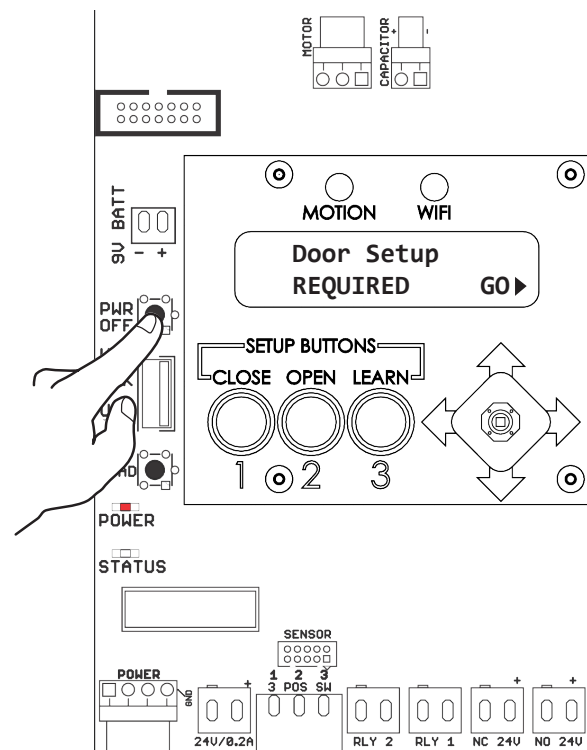

Figure 2
3. Use supplied green connectors to wire in any devices needing outputs, such as electric strikes, mag locks, exit devices, door open position output, etc. (Figure 2) See Input Connections on page 10 and Output Connections on page 11 for information.
4. Turn on building power feed. Power will normally be "On" for operator. Power can be turned on or off by pressing power button. (Figure 2)
NOTE: On control board there should be one solid red LED for POWER and one white LED that flashes every 1.5 - 2 seconds for STATUS. CLOSE button of Setup Buttons should be flashing orange continuously. (Figure 2)